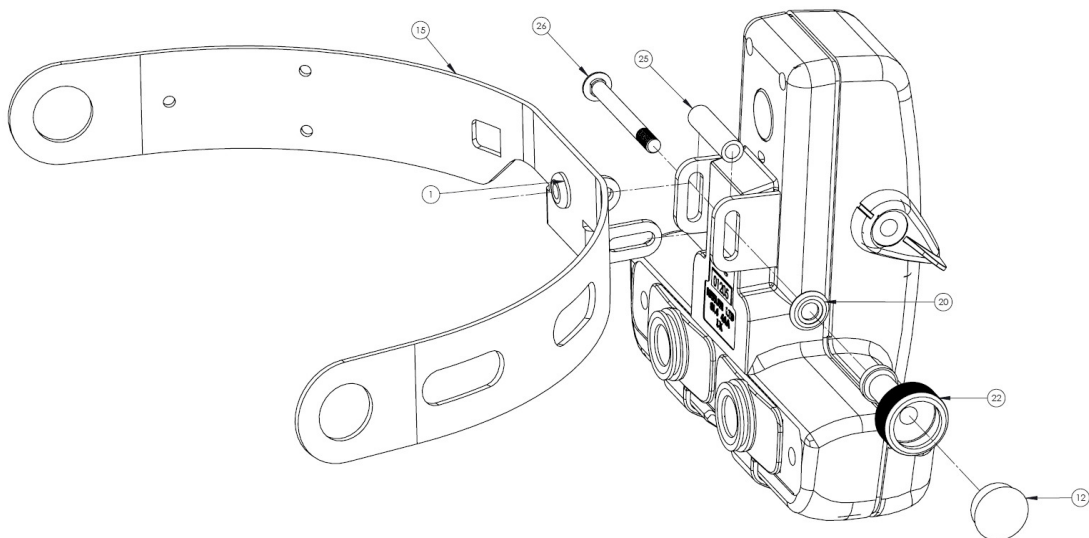

Figure 5
2. Assemble Headunit onto Browbar ensuring Washer (20) is positioned as shown in Figure 5.